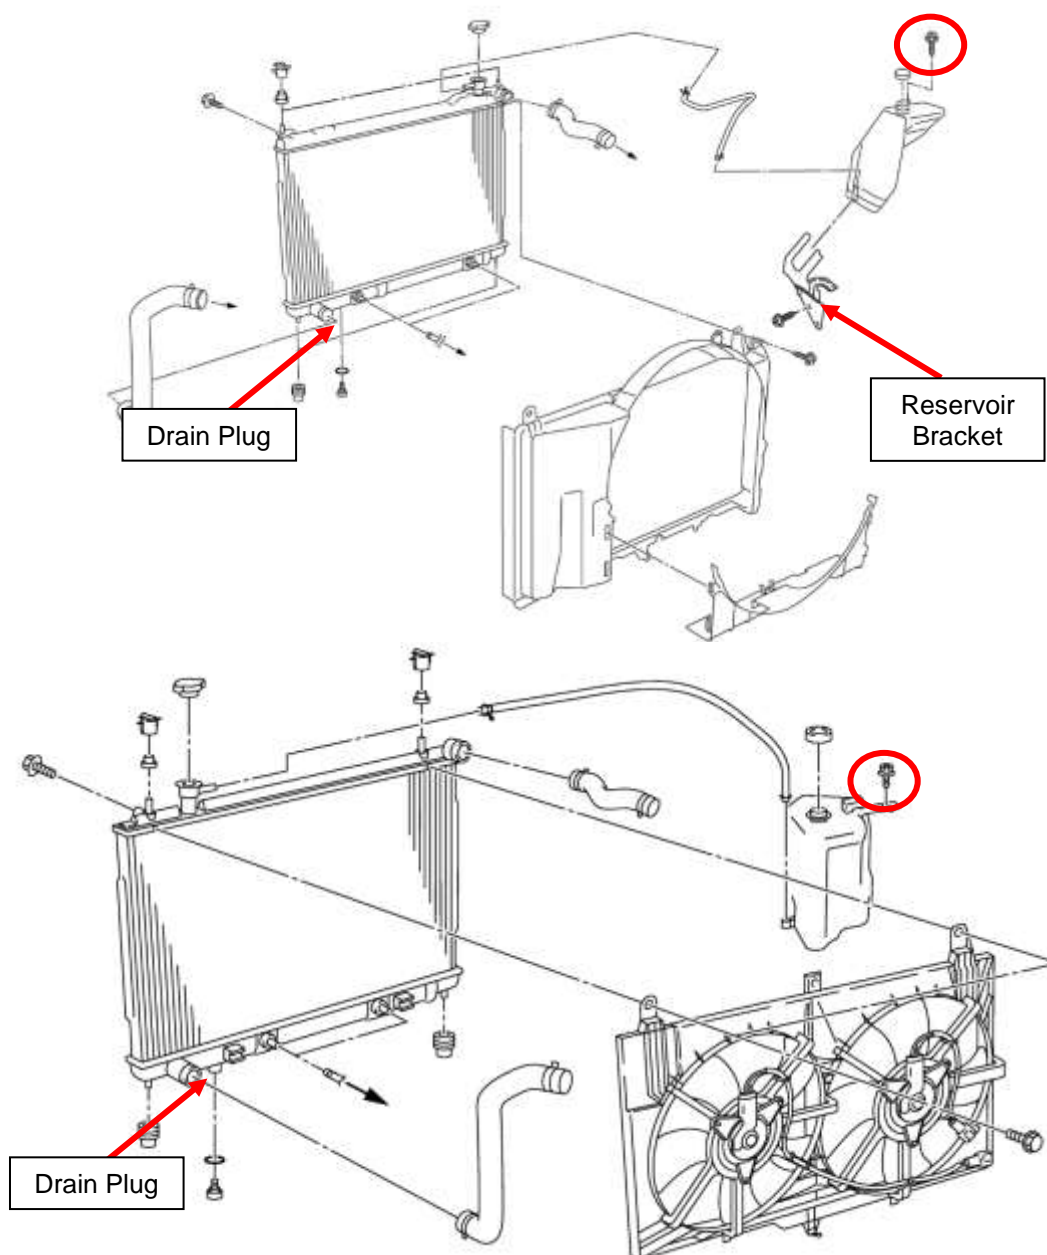

Figure 8
18. Drain and collect coolant from the vehicle. There is a drain plug on the passenger side of the Radiator. *Figure 8.*
19. Disconnect the Coolant Reservoir Tank Hose from the Reservoir and the Radiator. *Figure 8.*
20. Remove the (1) one bolt that secures the Coolant Reservoir to the Chassis. Retain this Hardware. *Figure 8.*
22. Remove the (1) one bolt securing the Coolant Reservoir Bracket to the Chassis and remove the Bracket. *Figure 8.*